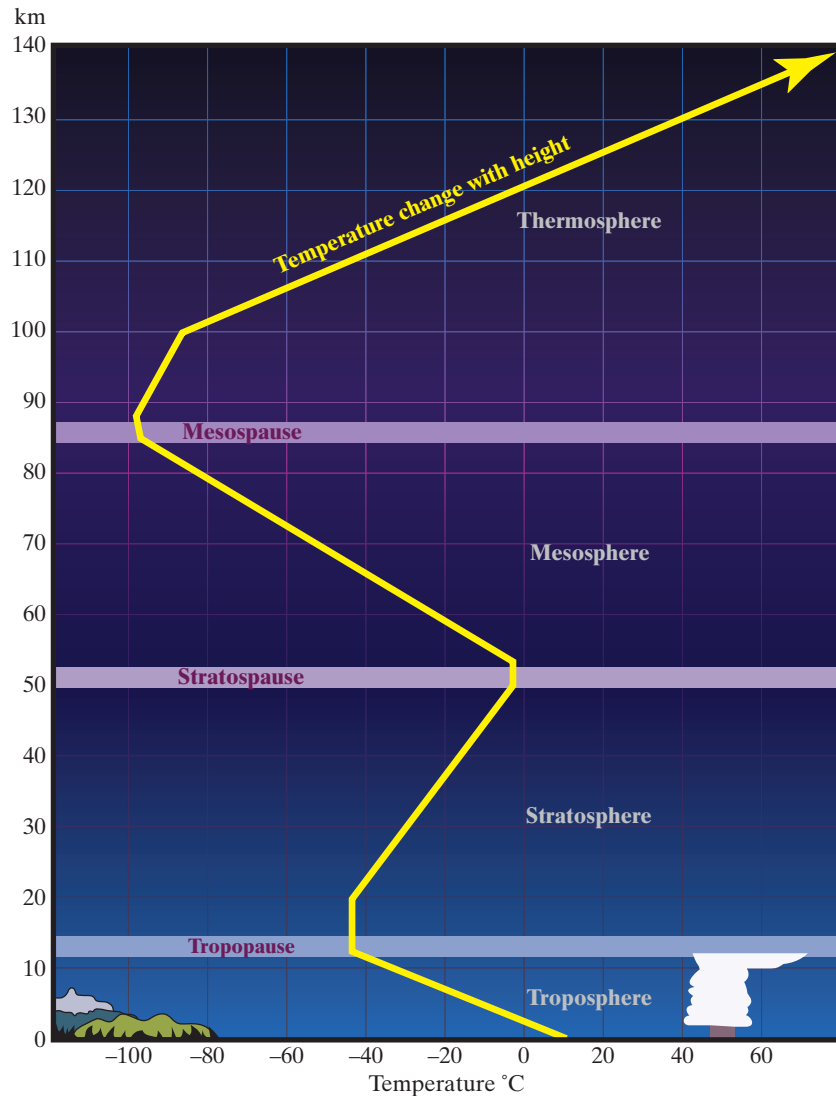

FIGURE 17.21
Atmosphere Let us now look at the Earth's *atmosphere* in greater detail. The air surrounding the earth can be divided into four distinct regions: *troposphere*, *stratosphere*, *mesosphere*, and *thermosphere* (see Figure 17.21). The layer of air closest to the earth's surface is called the *troposphere*, and it plays an important role in shaping our weather. The radiation from the sun heats the earth's surface and in turn heats the air near the surface. As the air heats up, it moves away from the earth's surface and cools down. Water vapor in the atmosphere in the form
of clouds allows for transport of water from the ocean to land in the form of rain and snow. As shown in Figure 17.21, the temperature of the troposphere decreases with altitude. The *stratosphere* starts at an altitude of about 20 kilometers, and the air temperature in this region increases with altitude as shown. The reason for the increase in temperature in the stratosphere is that the ozone in this layer absorbs ultraviolet (UV) radiation, and as a result, it warms it up. The region above the stratosphere is called the *mesosphere*, which contains relatively small amounts of ozone, and consequently, the air temperature decreases again as shown in Figure 17.21. The last layer of air